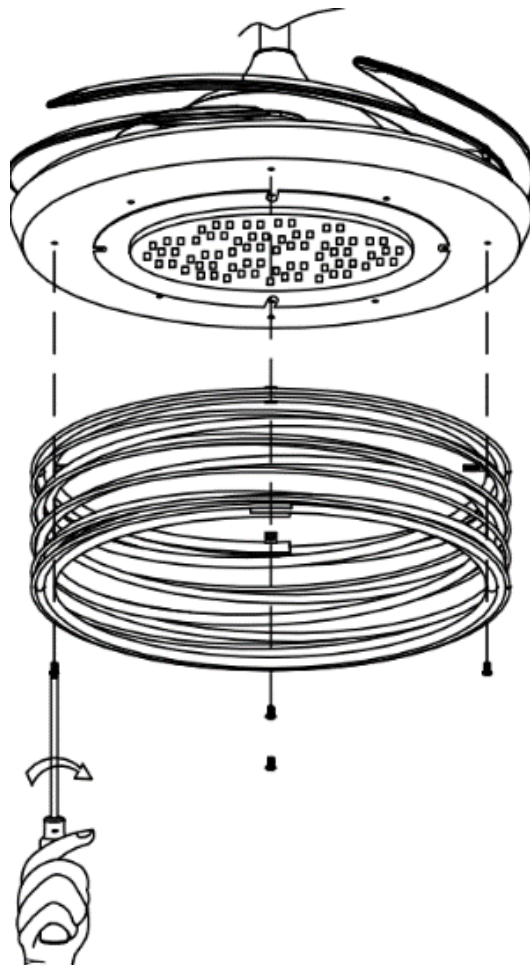

Fig. 10
2. Secure the metal decorative frame to the light kit bracket plate by tightening the 4 screws. Do not over-tighten. (Fig. 10)